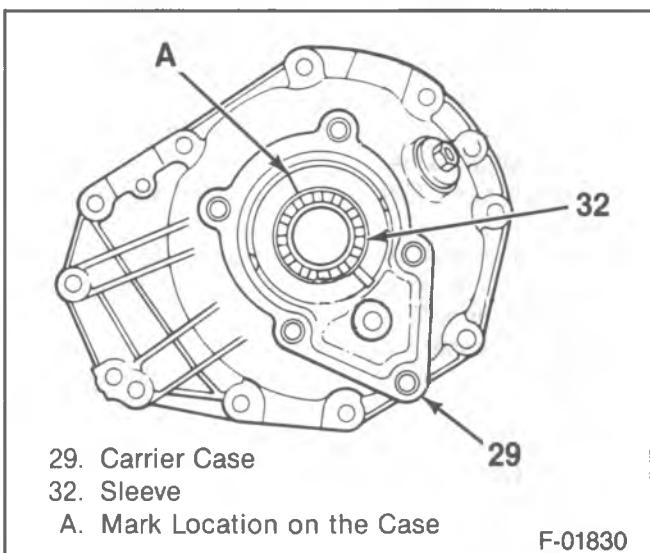

Figure 84—Marking the Adjusting Sleeve Location
- Mark the location of the adjusting sleeves in relation to the carrier halves (figure 84), so the notches in the adjusting sleeves can be counted when turned.